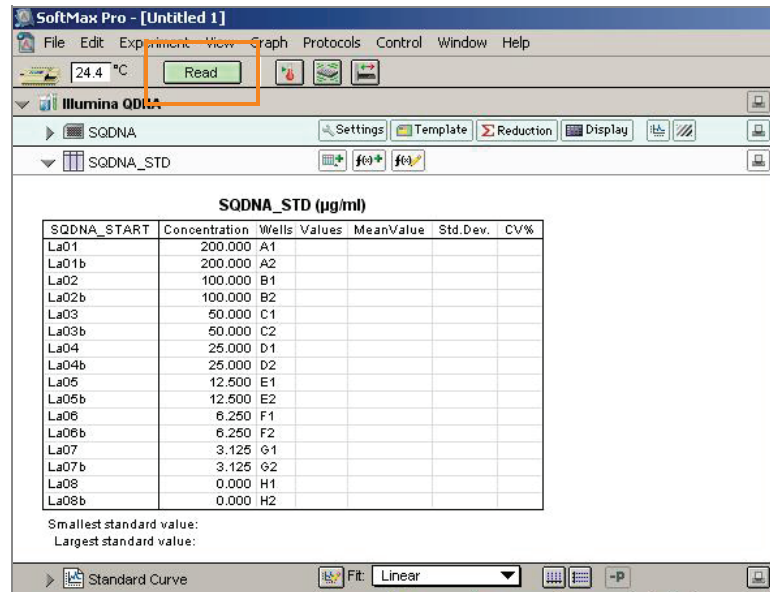

Figure 22 Read the Standard QDNA Plate
- Click **Read** in the SoftMax Pro interface (Figure 22) to begin reading the Standard QDNA Plate.